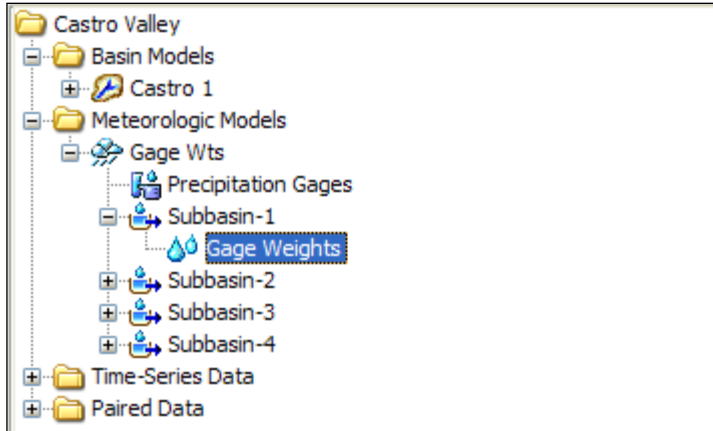

Figure 44. Selecting the Gage Weights sub-component for Subbasin-1.
2. In the *Watershed Explorer*, click the plus sign next to the **Subbasin-1** element and select the **Gage Weights** sub-node (Figure 44). A *Component Editor* will open with two tabs, “Gage Selections” and “Gage Weights.” Depth and time weights are required for all precipitation gages with the “Use Gage” option set to “Yes.” For this example, the `Fire Dept` gage will be used for all subbasin elements because it contains the storm pattern; the other gages only contain total storm depths. Once the correct precipitation gages are included for Subbasins-1 (Figure 45), select the “Gage Weights” tab and enter the correct “Depth Weight” from Table 9 for Subbasin-1. The “Time Weight” will be 1.0 for the `Fire Dept` gage in all subbasins (Figure 46). Complete this step for the remaining subbasins.